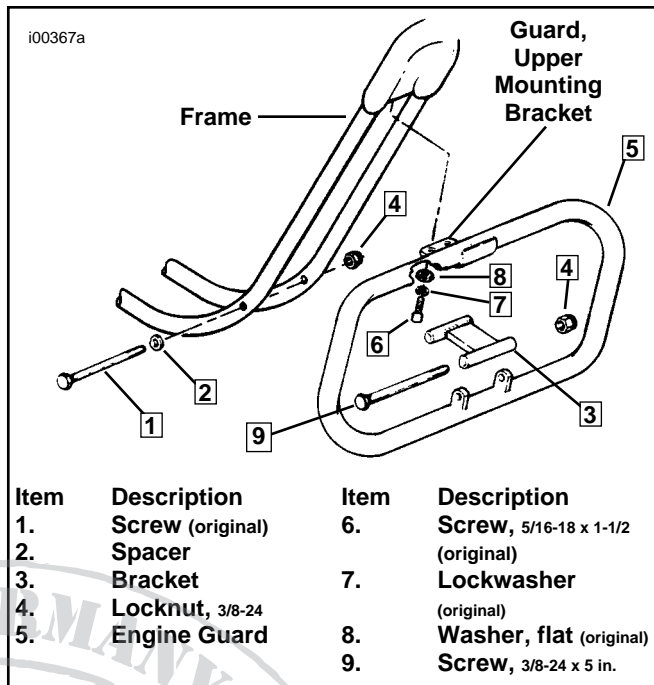

Figure 3. Installation (Generator Models)
1. See Figure 3. Remove screws (6), lockwashers (7), and flat washers (8) from underside of steering head. Discard original screws (6). Retain washers for reassembly.